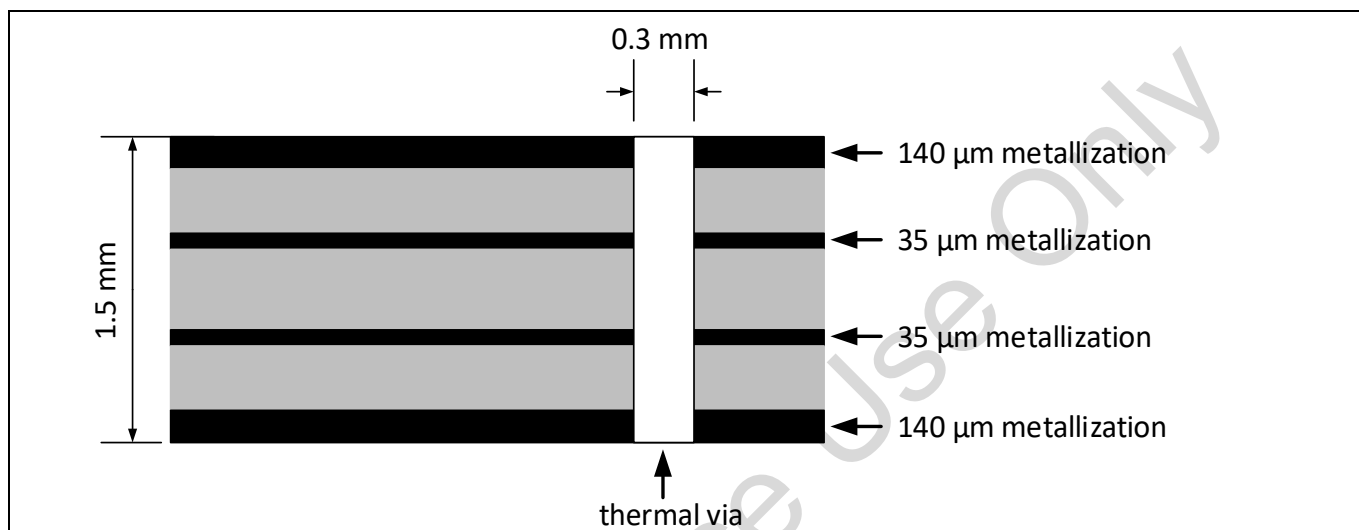

Figure 2 Reference board layer stack
- The TLI4971 EVAL_120A board consist of four layer described in the below Figure 2.